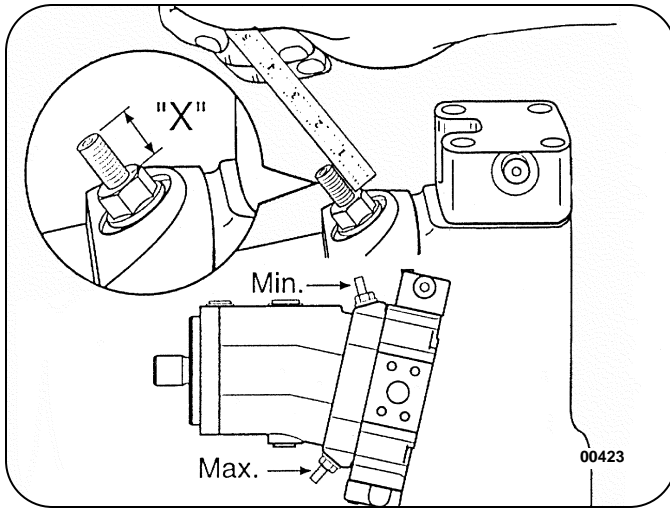

Figure 21: Wheel Drive Motor Displacement Adjustments
3. Locate the MIN displacement adjustment setscrew and carefully measure the "X" dimension with the vernier caliper (or depth micrometer). Record dimension. See Figure 21.
7. Locate the MAX displacement adjustment setscrew and carefully measure the "X" dimension with the vernier caliper (or depth micrometer). Record dimension. See Figure 21.